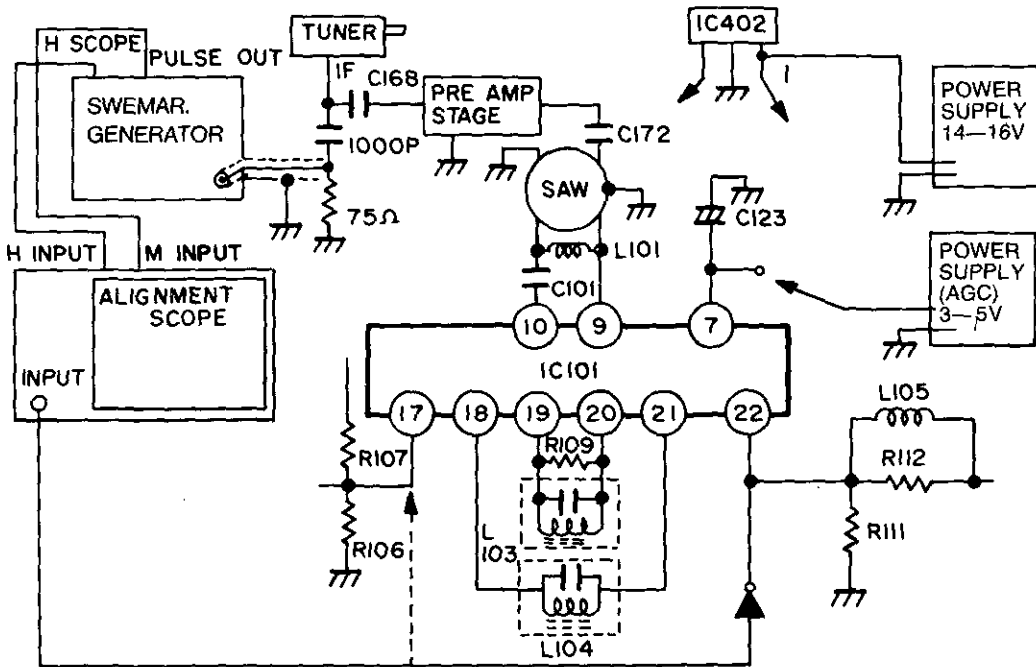

Figure 9
PRELIMINARY STEPS (See figure 9)
- (1) Connect the output of the SWEEP MARKER GENERATOR to the output terminals of Tuner(IF OUT) or SAW FILTER as shown in figure 9.
- (2) Couple the H-scope terminal of the swemar generator to the H-input terminal of the alignment scope terminal and the pulse out terminal to marker input terminal.
- (3) Apply the detected output from the pin 22 of IC101 in main PCB assembly to the input terminal of the alignment scope.
- (4) Apply A.G.C. voltage to the pin 7 of IC101.(about $4.5 \pm 0.5V$)
- (5) Apply 16V D.C. to the pin 1 of connector IC402.